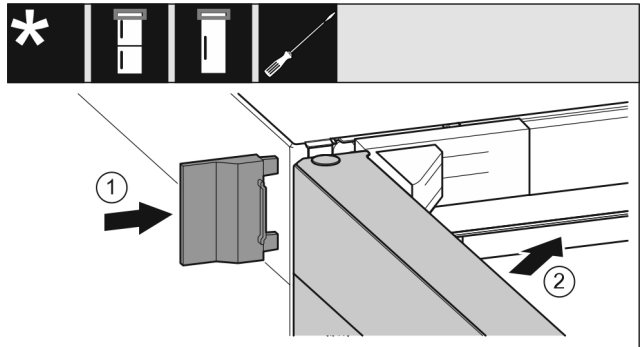

Fig. 41
- ▶ Push the outer cover *Fig. 41 (1)* on.
- ▶ Close the upper door *Fig. 41 (2)*.